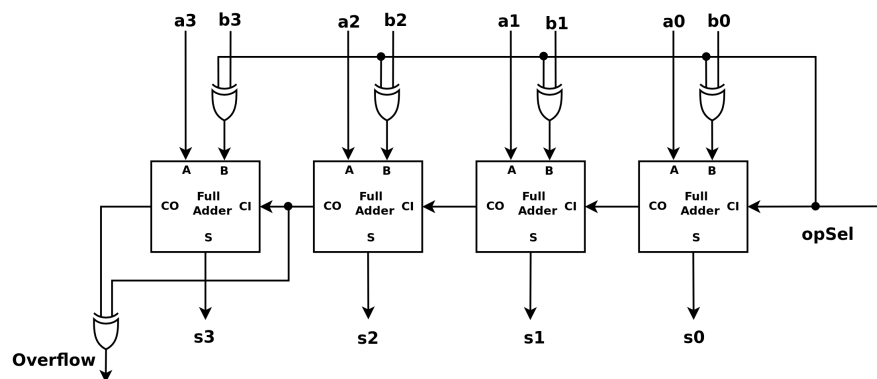

Figure 4: Addition/Subtraction Unit
- (c) Now that we understand the basics of structural and dataflow Verilog, we can use a mixture of the two abstraction levels to create the addition/subtraction unit found in Figure 4. As with the previous procedures, use the code below as a starting point. Note the new module interface description in lines 7-13. Verilog supports declaring and defining module ports in the same lines of code as seen in the template.